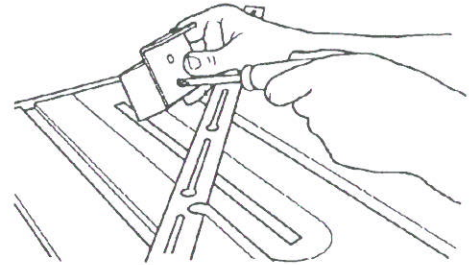

Fig.11
10. See Fig.11 and note the position of the stop block (14) to the fence stop (13). Using two screws (15), attach the stop block (14) to the fence stop (13). This will face the angled tip of the stop block away from the non-slip surface on the long extension, as in Fig.11.